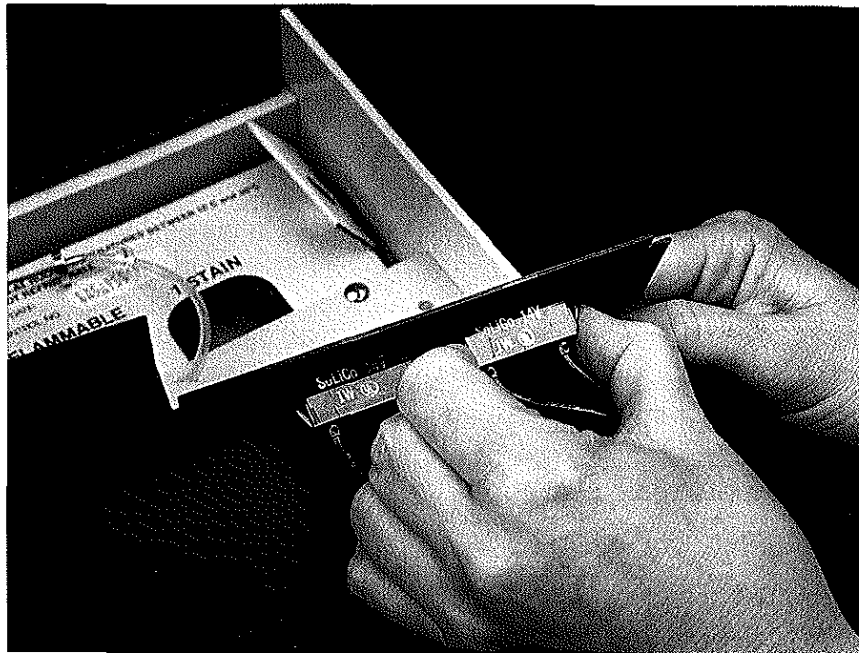

Figure 8-4
5. Unsnap the burned-out light assembly from the circuit board cover by pinching together the two plastic retaining tabs on the light assembly (Figure 8-4). If the tabs are too stiff, use a screwdriver to press against one side, then push that edge partially through the opening. Repeat with the other side.